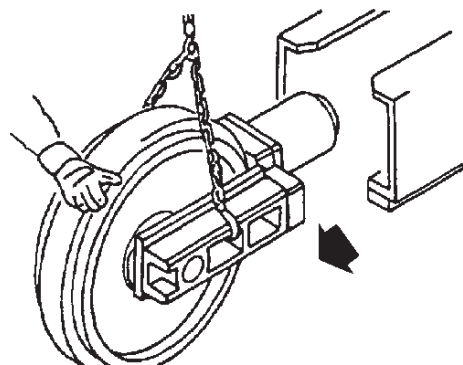

Fig. 3-47 Idler Unit - removal
2. Clean dirt from all parts. Using an adequate lifting device, pull out the complete idler unit (fig. 3-47).